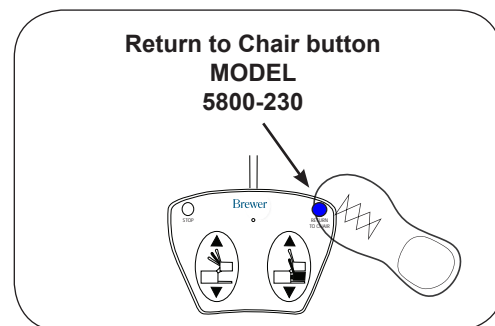

Figure 34. Lowering with Return to Chair
3. Press the blue button to engage the Return to Chair feature (Figure 34).